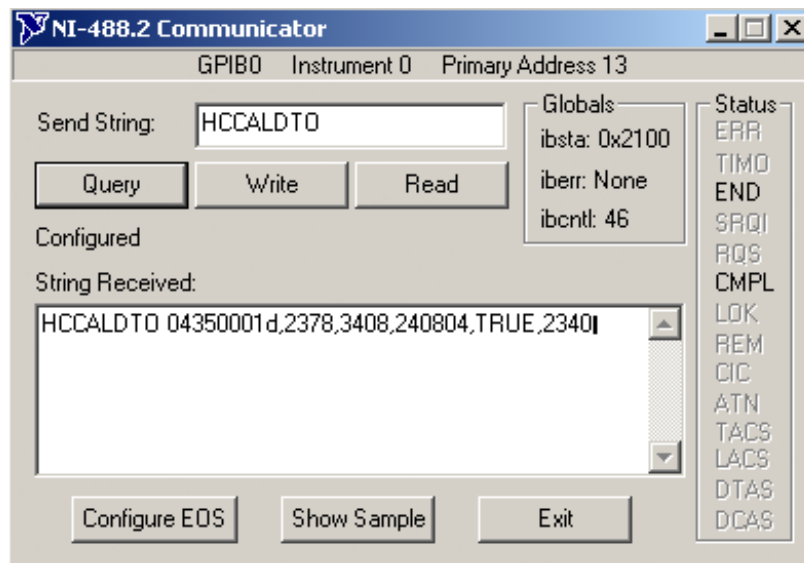

Figure 4-5. Verifying Cal Data Saved Using Query
1. To verify that calibration data is saved correctly, use the following command in the Send String box and use the Query button, as shown in Figure 4-5: